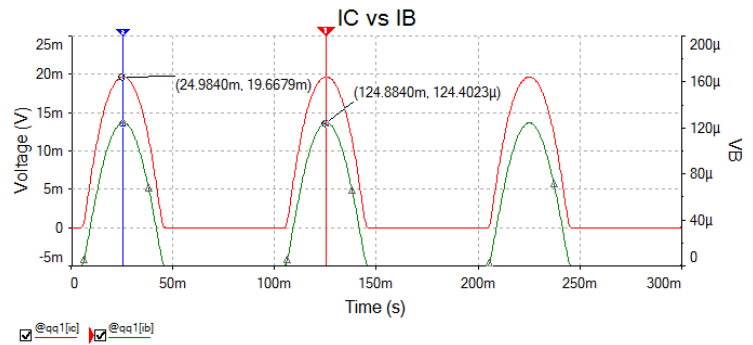

Figure 3: Your current waveforms for Task 1b should look like this.
- You should get a graph like the one in Figure 3.